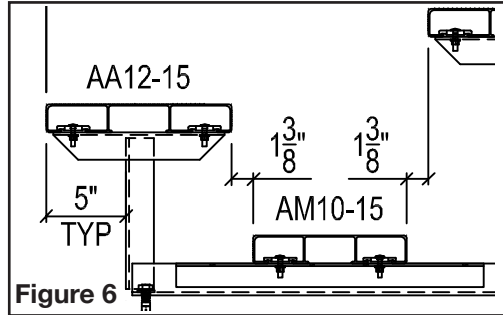

**Figure 5**
c. Place foot deck plank on rows 2 through 4 (if applicable) tread support. Be sure to maintain proper overhang of 1'6" off of frame (Figure 5).